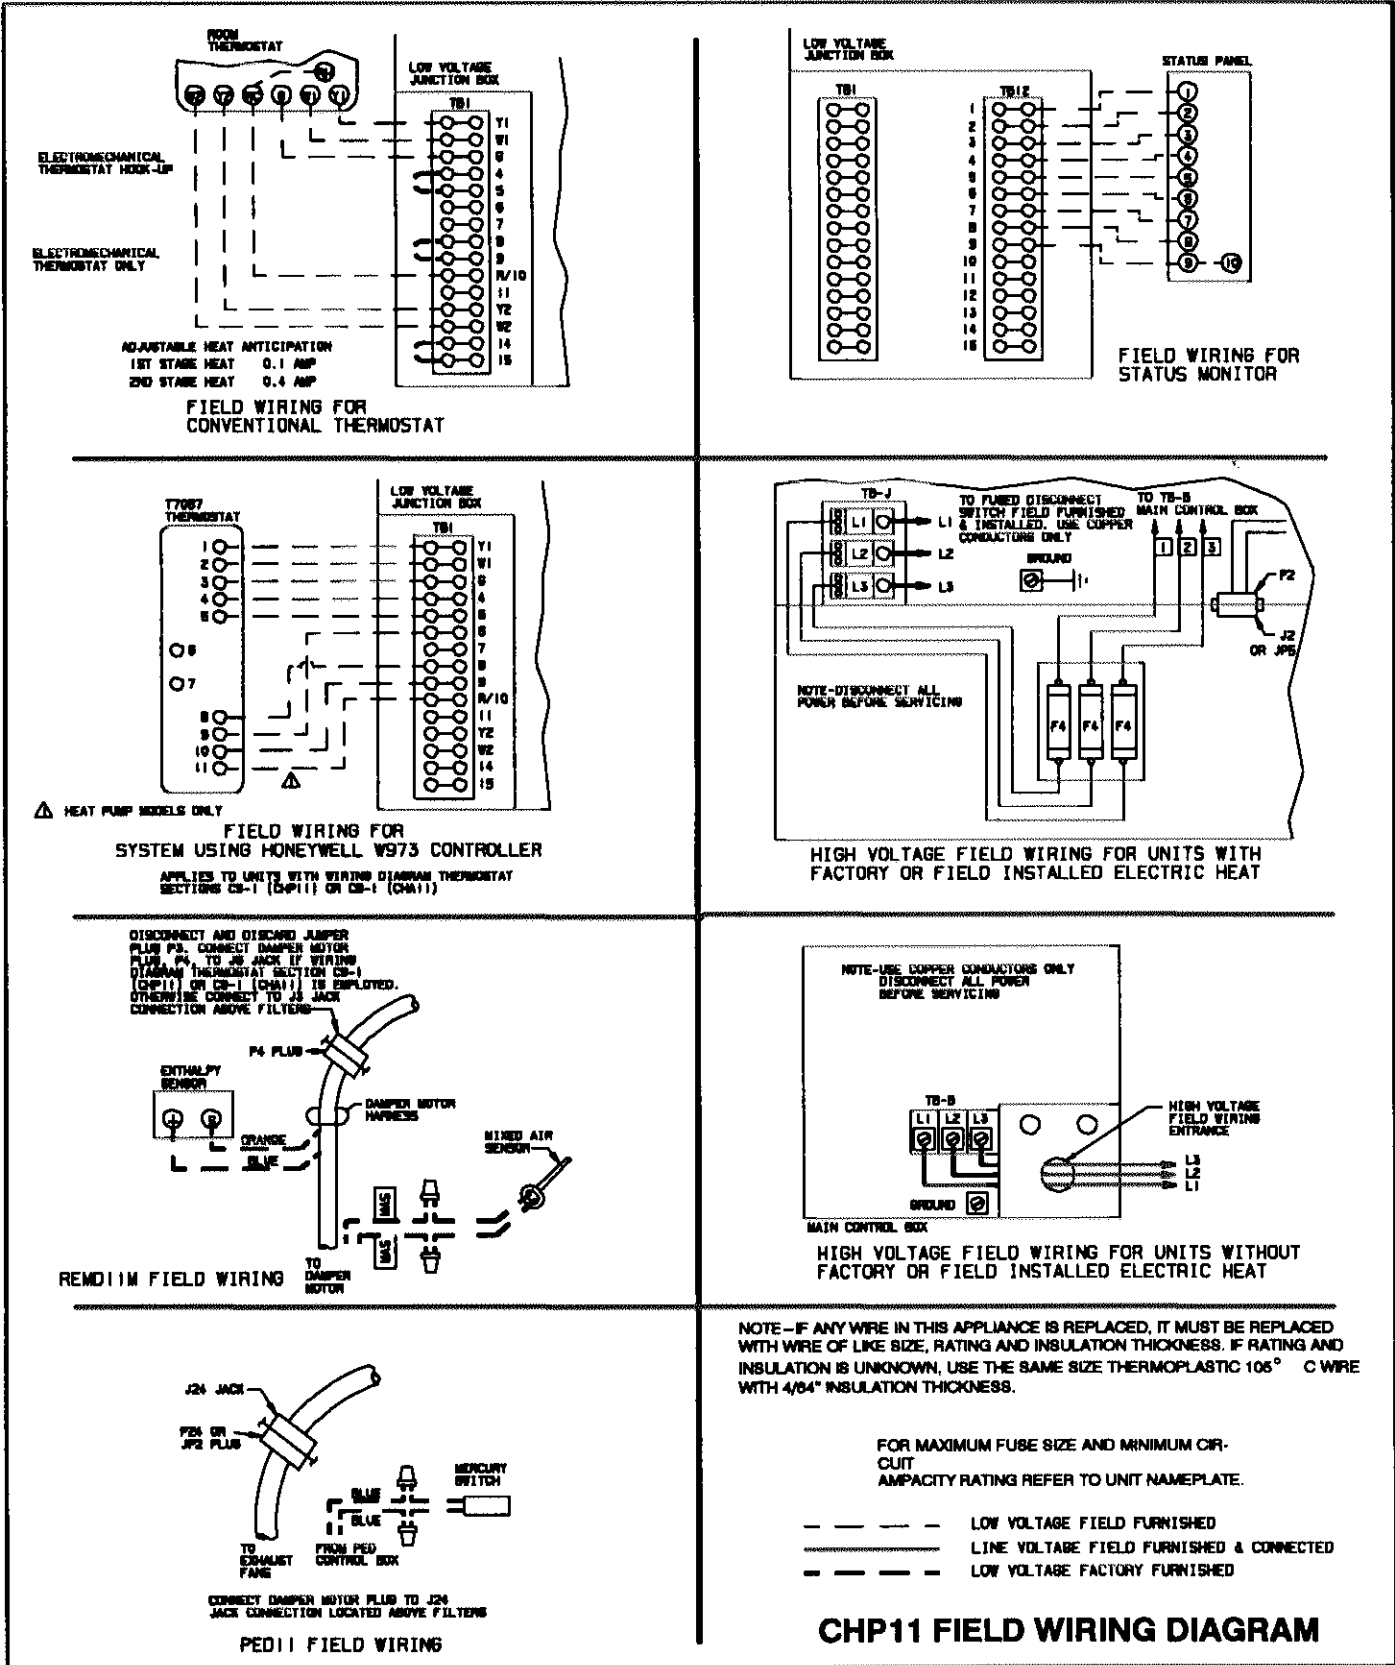

FIGURE 8
- 3— Refer to field wiring diagram on unit control box cover and in figure 8 for field wiring connections.
- 3— Refer to unit field wiring diagram on unit and in figure 8. The incoming power connects to power terminal strip in heat section. Subfusing protects the unit and provides a separate circuit from the electric elements.
Control wiring for CHP11 units are made at the low voltage terminal block in the low voltage make-up box at the front of the unit. Refer to field wiring diagram on unit and in figure 8.
- 1—Route thermostat cable or wires from subbase through knockout provided in unit. Plastic bushing is shipped loose in field make-up compartment and must be installed in 24 volt control wiring knockout if conduit is not used. See field wiring diagram on unit and in figure 8. For thermostat wire runs up to 50 ft. (15 m), use 18-gauge wire; and for 50 to 90 ft. (19 to 27 m) runs, use 16-gauge wire.
Route nine wires from status panel location to the unit low voltage 24 VAC inlet as shown in figure 8 and field wiring diagram on unit. Field wiring diagram also shows proper connection to the status panel terminal block.
The REMD11M economizer is available as either a factory- or field-installed option. In cases where the economizer has been factory-installed, refer to the REMD11M instructions shipped in the unit control box for field installation of outdoor air intake hood. Field wiring of the enthalpy sensor is also covered in the economizer instructions and in the field wiring diagram on the unit and in figure 8.
For field installation of the REMD11M, see instructions packaged with the economizer. Refer to economizer instructions and field wiring diagram on unit and in figure 8.
When power exhaust dampers are field-installed, follow installation instructions shipped along with PED11. Refer to wiring section in instructions as well as field wiring diagram on unit and in figure 8.